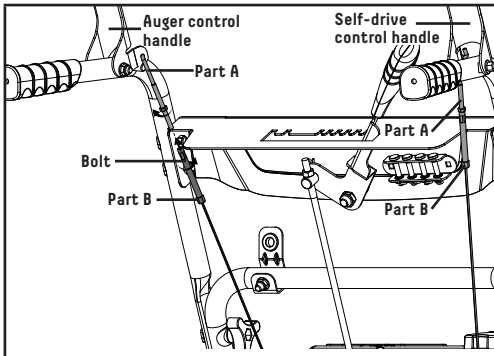

Figure 7
1. The auger control wire includes part A and part B (Fig. 7).
2. Lift the auger control handle to the upper position (Fig. 7).
3. Hook part A into the auger control handle (Fig. 7).
4. Connect part A and part B of the auger control wire to get a natural tension station for the wire. (Fig. 7)
In the process of operation, if the auger or drive control handle is too loose, screw the bolt (Fig. 7) of part A to get a natural tension station for the wire.